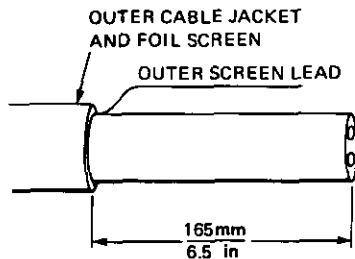

Figure 6.
1. Trim back outer jacket and foil screen (shield) as shown in Figure 6. Do not cut screen lead.